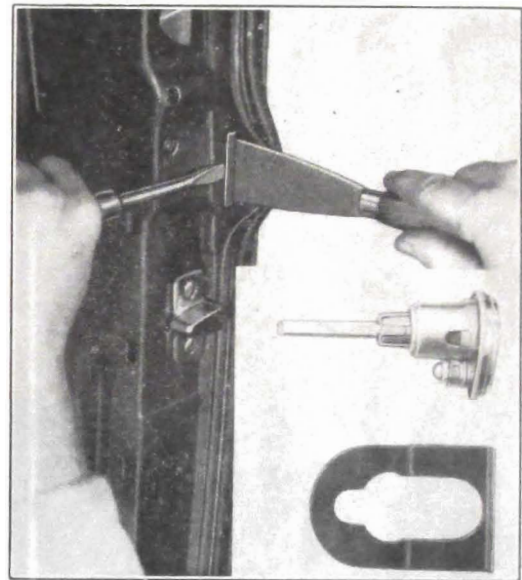

Fig. 1-64. Safety Lock Removal
1. Release door side weatherstrip at lock face to expose the flat spring retainer. See Fig. 1-64.
2. Insert putty knife between door flange and retainer and at same time pry the retainer out about $\frac{1}{2}$ " with another putty knife or thin screwdriver. The safety lock may now be disengaged and removed from its opening in the door panel. See insert, Fig. 1-64.